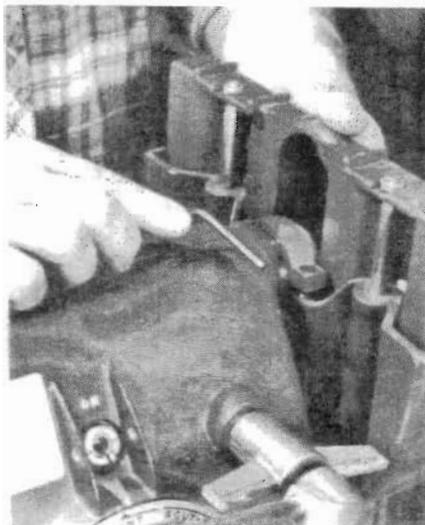

Figure 3. Place the lower saw guard on the quill, then tighten the Allen screws on the saw guard collar.
**2. Mount the lower saw guard on the quill** so that the collar on the guard butts up against the stop collar on the quill. With a 5/32" Allen wrench, tighten the two screws (27) on the collar. (See Figure 3.) Tighten each screw equally.
**4. Mount the tie bar shield (20)** over the two thumbscrews on the tie bar. Tighten the thumbscrews.
**6. Install the upper saw guard** by sliding the upper guard from left to right into the slots in the mounting block (17).